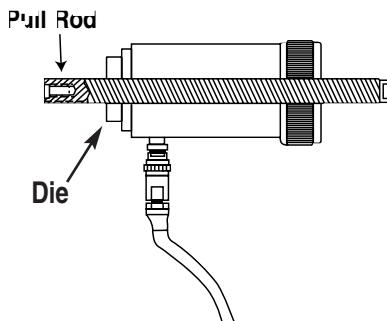

Figure 6
- Select the punch set needed. Slide the die over the pull rod (Figure 6).